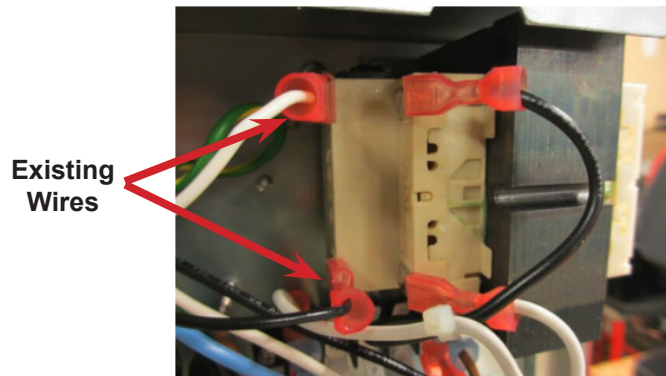

Figure 8: Existing Configuration
- F. Disconnect existing wires as shown in Figure 8 and 9.